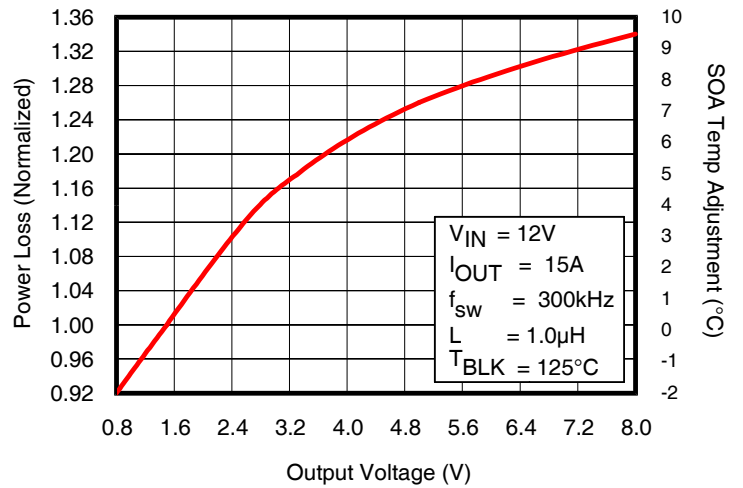

Fig. 5: Normalized Power Loss vs. V_{OUT}
- (Fig. 5) Normalized power loss for output voltage \approx 0.97
- (Fig. 5) Normalized SOA Temperature for output voltage $\approx -0.75^{\circ}\text{C}$